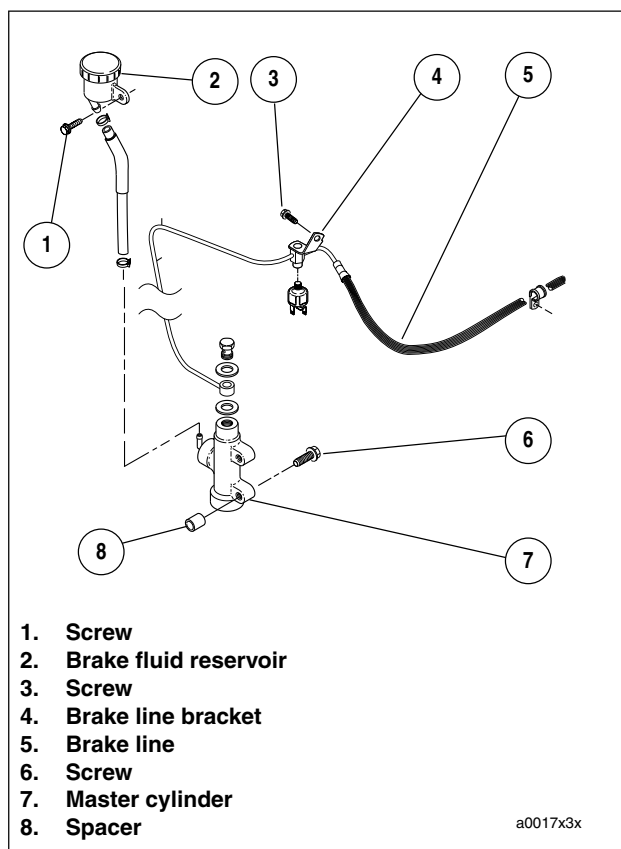

Figure 3-9. Rear Master Cylinder and Brake Line Assembly
See Figure 3-9. Remove rear master cylinder before removing sprocket cover.
23. See Figure 3-9. Disconnect screws (1,3,6) at brake fluid reservoir, master cylinder and brake line bracket.